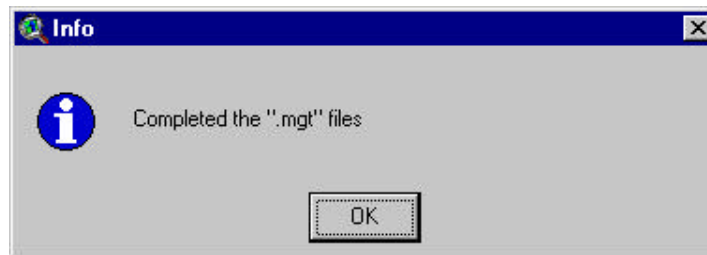

Figure 8.22
- i. From the **Input** menu, select **Write Management Data (.mgt)** (or press `Ctrl+K`). This selection generates the HRU management data (see *Soil and Water Assessment Tool User's Manual, Version 2000*, Chapter 20). A prompt box pops up (see description under 1.e under Section 8.1). When the data files have been written, a message box will pop up (Figure 8.22).